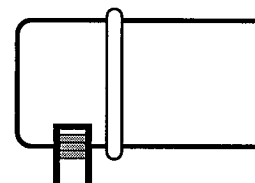

Figure 74A
Step 31. Cut a 1-1/2" length of 3/8" silicone tubing (164). The edges should be cut as straight as possible. This piece of tubing will be used as the tuned pipe stinger.
Step 32. Insert the aluminum stinger sleeve (165) into one end of the rubber stinger. The sleeve (165) should be inserted 1/16" inside the edge of the stinger.
Step 33. Moisten the outside edge of the stinger on the side that the sleeve (165) is inserted. Press the exhaust stinger into the large hole in the tuned pipe (161) so that the sleeve (165) is centered in the wall of the pipe (161) see figure 74A.